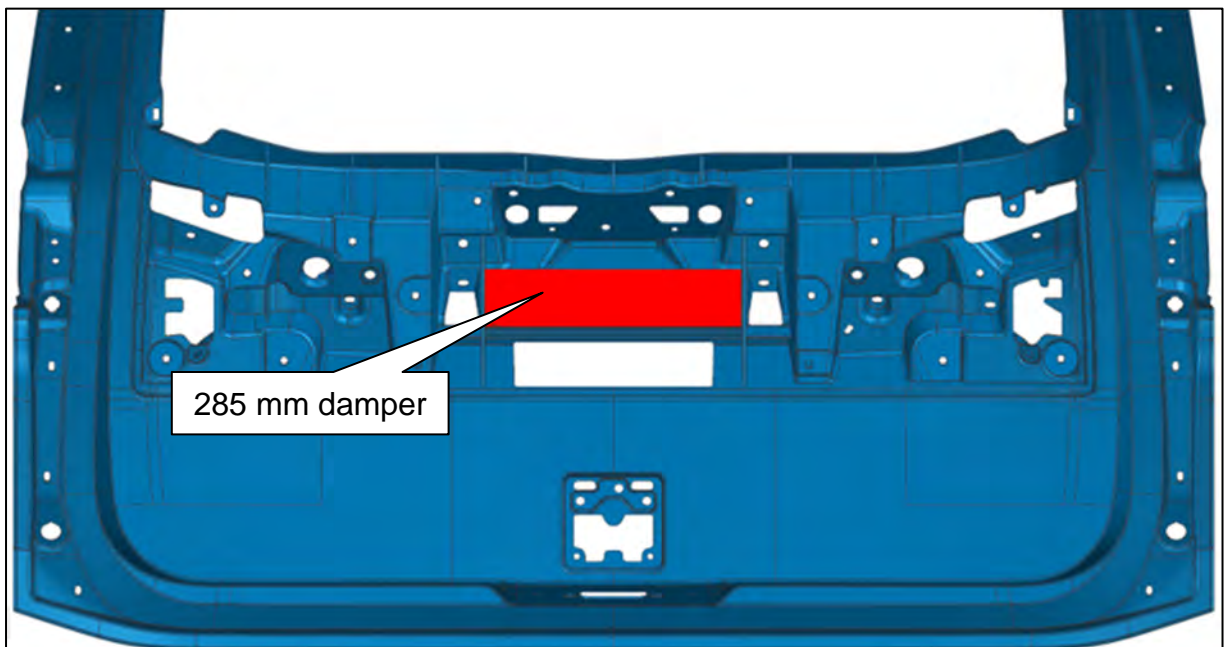

Figure 33
44. Apply 285 mm Damper where shown in Figure 33.